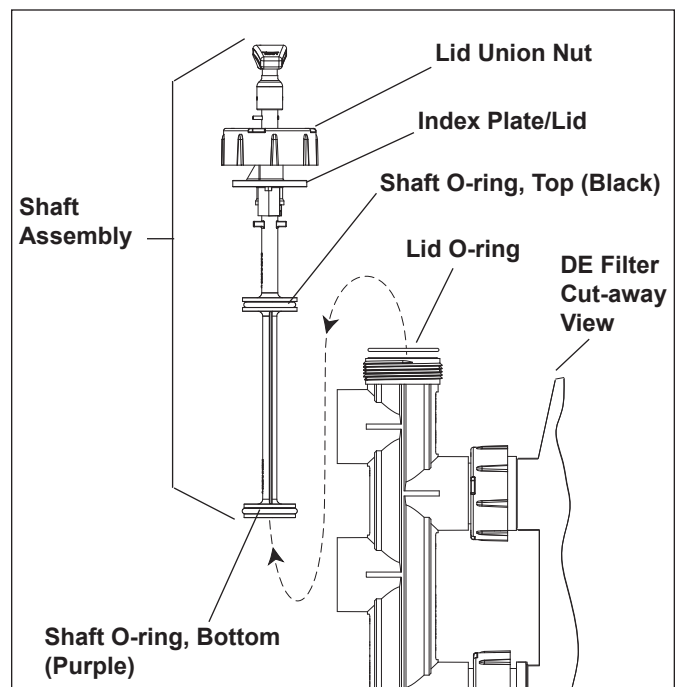

Figure 2. Remove Slide Valve Shaft Assembly
3. Grab the existing slide valve handle and pull the shaft assembly out of the valve (see Figure 2).